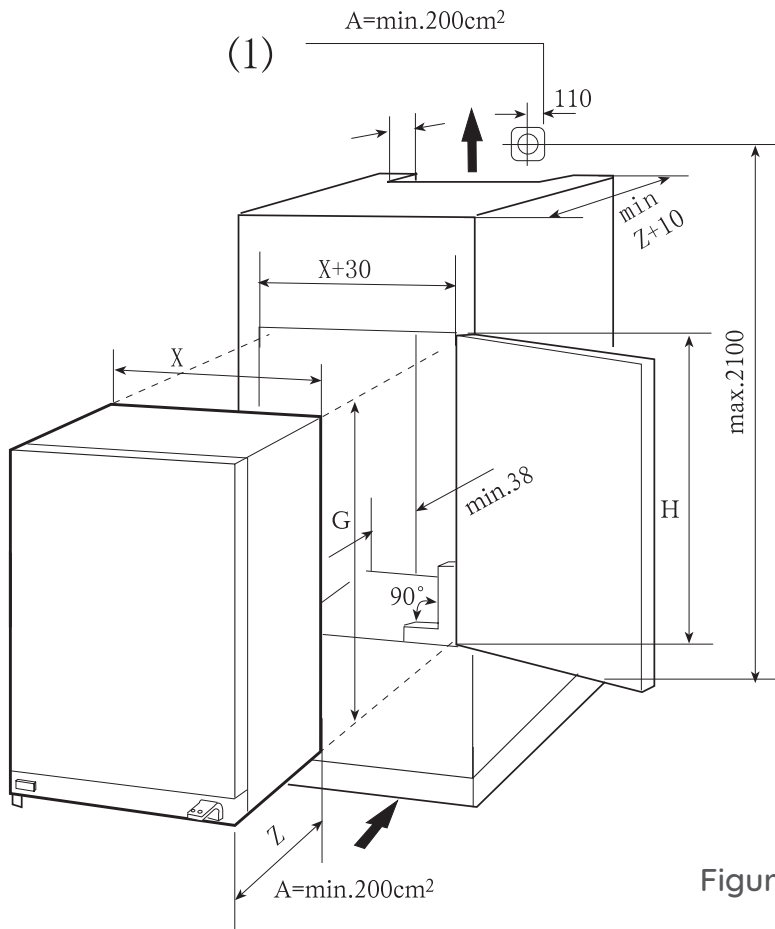

Figure 1
- Ventilation (Figure 1)
4. Check that the position of the socket (1) is correct. The AC voltage at the point where the appliance will be used must comply with the data on the nameplate affixed to the inside left wall of the appliance, near the vegetable box. The outlet must be properly grounded.